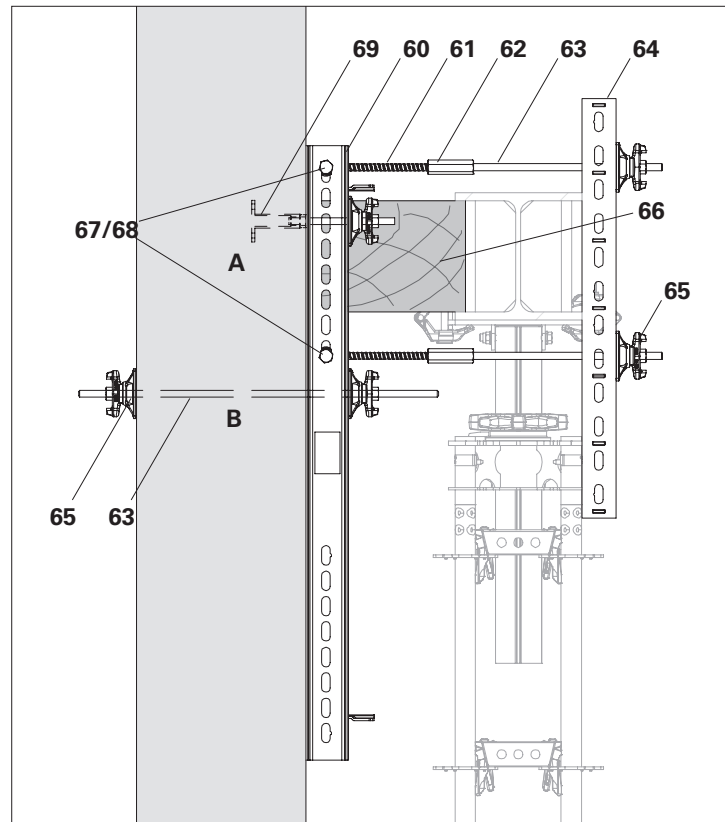

Fig. B1.04
Forces perpendicular to the level of the main beam frame are transferred directly from the Main Beam HDT (20) onto existing components, e.g. abutments. (Fig. B1.04)